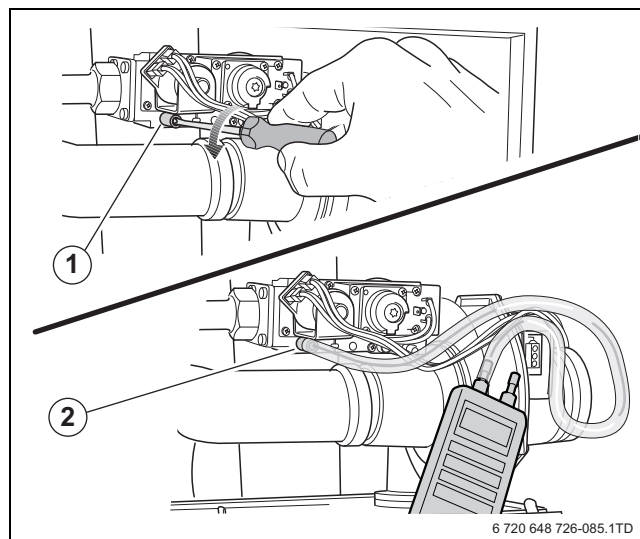

Fig. 85 Measuring the gas supply pressure
- ▶ Slowly open the gas valve by pushing on the gas valve and turning it anticlockwise through $\frac{1}{4}$ rotation (\rightarrow fig. 85, page 58). The gas valve is open when it is in the vertical position.